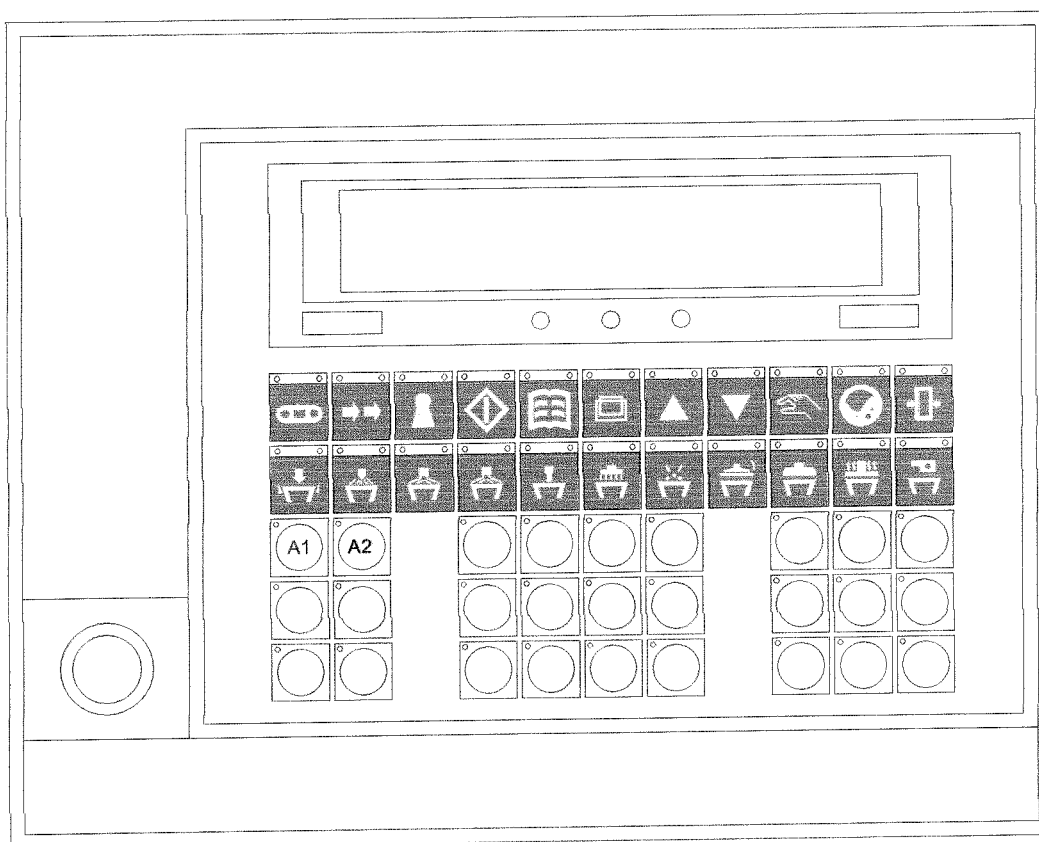
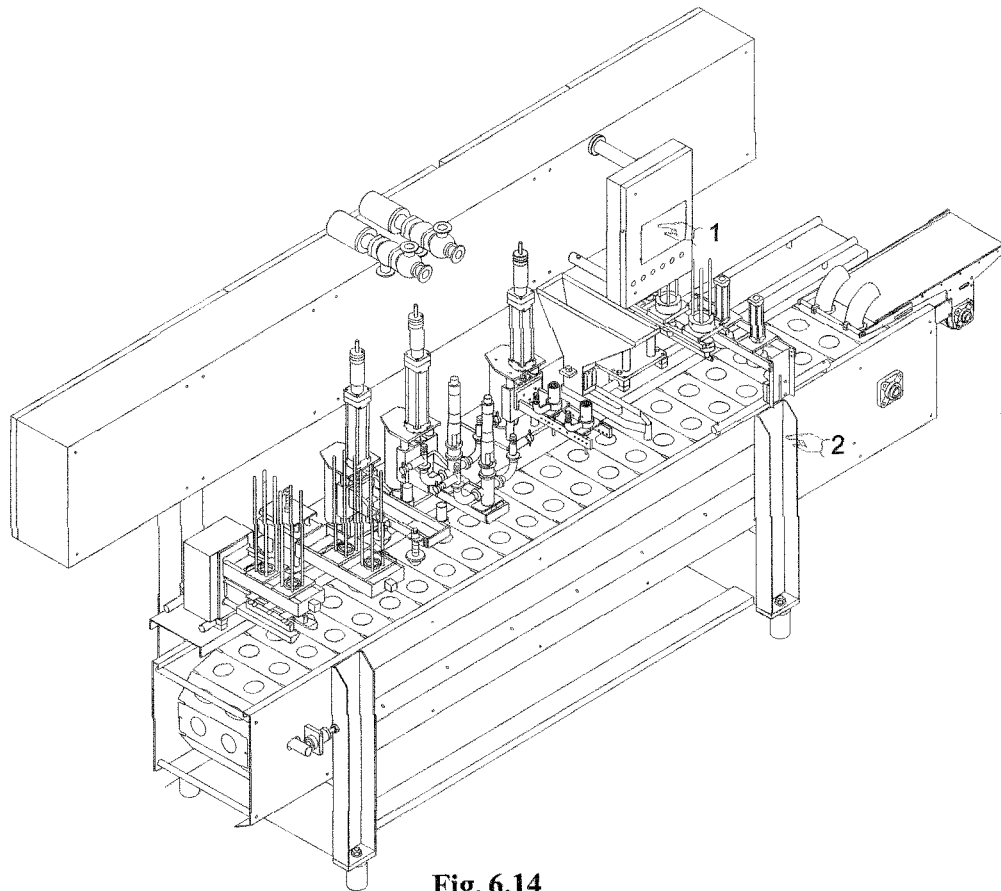
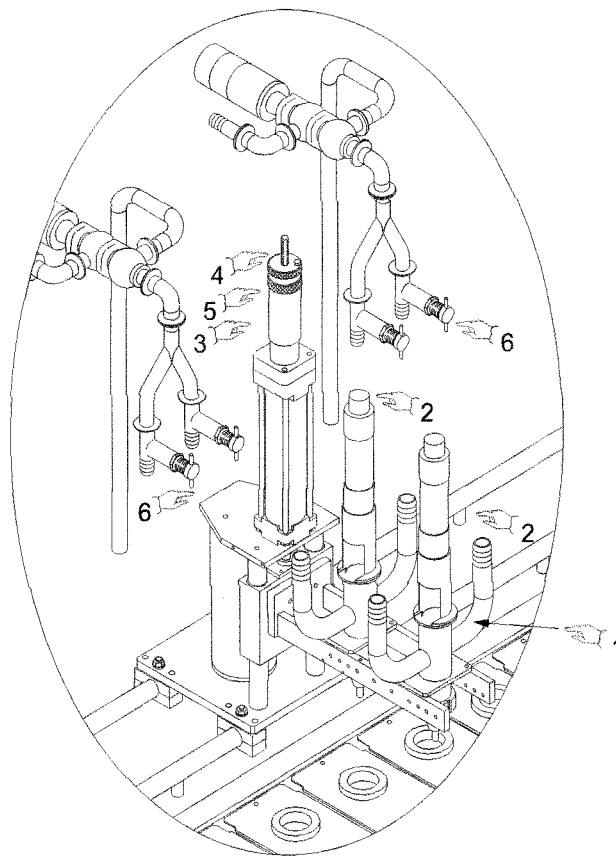
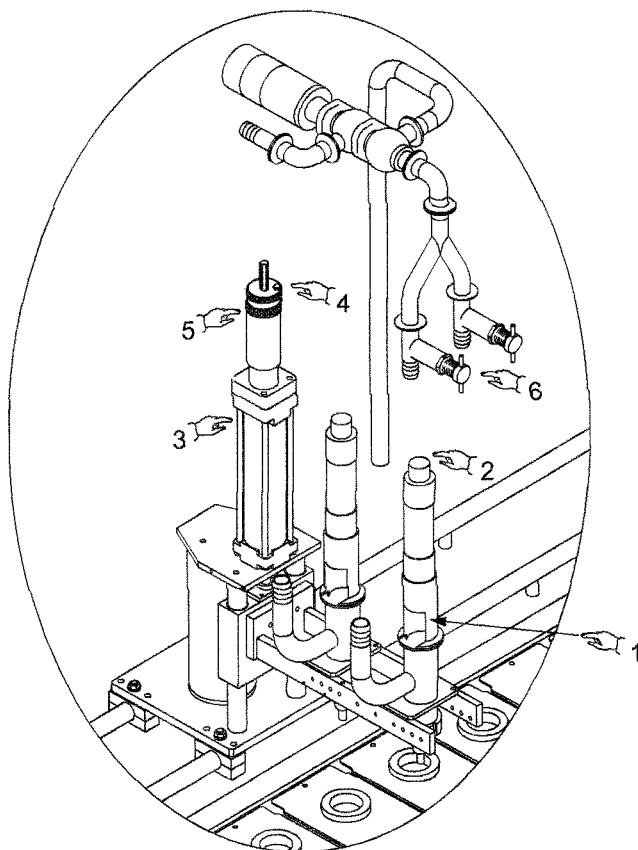

Fig. 6.13
Fig. 6.14
Fig. 6.16
Fig. 6.17
The water in the jacket must be heated at least half an hour before use. The water is heated by pressing button *A1* (*Fig. 6.13*).
(*Fig. 6.13*) which automatically close the by-pass.
is activated using the “pencil filler”  buttons (*Fig. 6.13*) which automatically close the by-pass.
During production, the tanks must be filled manually. To start heating the chocolate, press the “chocolate tank heater” button A1 (*Fig. 6.13*).
To keep chocolate circulating from the tank to the sprayer and back again while the machine is stopped, press the “chocolate sprayer” button  (*Fig. 6.13*).
The water in the chocolate tank jacket must be heated at least half an hour before use. The water heater is switched on by pressing button (A1 *Fig. 6.13*).
The station is activated by pressing the button  (*Fig. 6.13*).
The station is activated by pressing the button  (*Fig. 6.13*). The vacuum control and the rotation of the cylinder are adjusted by means of the associated cams.
The process is activated by pressing button F20  (*Fig. 6.13*) and adjusted by means of cams through the operator interface, with the appropriate inputs in the electronic programmer.
If any component malfunctions, press the emergency stop button (*Part. 1/2, Fig. 6.14*) to disable all the machine's electrical functions.
To reset the machine, first remedy the cause of the malfunction, rotate the emergency stop button (*Part. 1, Fig. 6.14*) anticlockwise and release it,
then press the reset button  (*Fig. 6.13*) on the operator interface panel or press the button on the cord emergency stop switch (*Part. 2, Fig. 6.14*) and then press the reset button  (*Fig. 6.13*).
- Press the end of production button (*Pos.*  *Fig. 6.13*). All the operating stations in memory will stop automatically.
The cups are filled with ice cream by dosers (*Pos. 1, Fig. 6.16*) controlled by means of pneumatic actuators (*Pos. 2, Fig. 6.16*).
A fixed structure supports a pneumatic actuator (*Pos. 3, Fig. 6.16*) which controls the upward and downward movement of the mobile frame. The travel of the pneumatic actuator can be adjusted by slackening screws (*Part. 4, Fig. 6.16*) and turning ring nut (*Part. 5, Fig. 6.13*) clockwise to increase the travel of the pneumatic actuator or anticlockwise to reduce it.
At the end of the adjustment, tighten screws (*Part. 4, Fig. 6.16*).
Two dosers (*Pos. 1, Fig. 6.16*) mounted on the frame feed the required quantity of ice cream into the cup.
The quantity of ice cream output by each doser can be balanced between the lines by adjusting the flow controllers (*Pos. 6, Fig. 6.16*).
The cups are decorated with ice cream by dosers (*Pos. 1, Fig. 6.17*) controlled by means of pneumatic actuators (*Pos. 2, Fig. 6.17*).
A fixed structure supports a pneumatic actuator (*Pos. 3, Fig. 6.17*) which controls the upward and downward movement of the mobile frame. The travel of the pneumatic actuator can be adjusted by slackening screws (*Part. 4, Fig. 6.17*) and turning ring nut (*Part. 5, Fig. 6.13*) clockwise to increase the travel of the pneumatic actuator or anticlockwise to reduce it.
At the end of the adjustment, tighten screws (*Part. 4, Fig. 6.17*).
Two dosers (*Pos. 1, Fig. 6.17*) mounted on the frame feed the required quantity of ice cream into the cup.
The quantity of ice cream output by each doser can be balanced between the lines by adjusting the flow controllers (*Pos. 6, Fig. 6.17*).